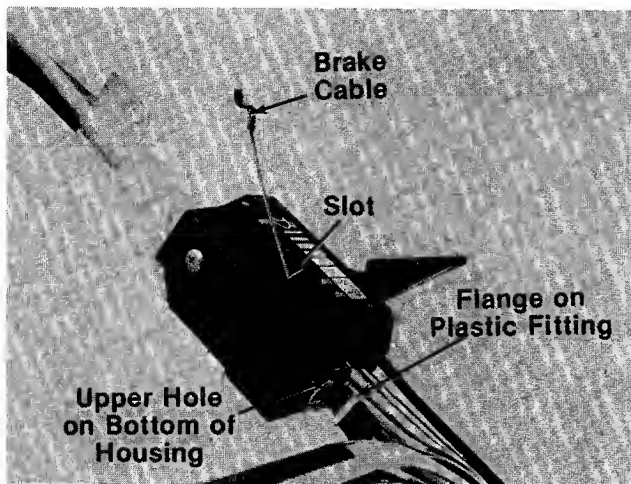

FIGURE 5.
8. Route the brake cable under the lower handle. Place the end of the brake cable into the upper hole on the bottom of the control housing, and through the slot in the side of the housing as shown in figure 5. The angle of the flange on the plastic fitting must be positioned downward as shown. Be careful not to bend or kink the cable.